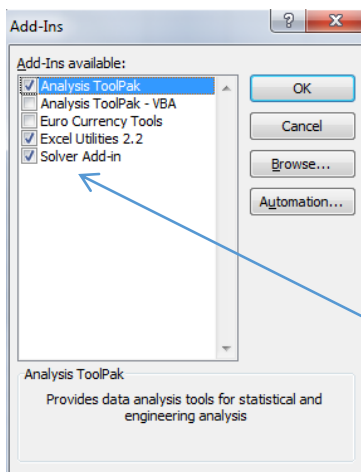

Figure 3
2. In the **Manage** box toward the bottom, select **Excel Add-ins**, and then click **Go**. The Add-Ins dialog box appears (Figure 3).